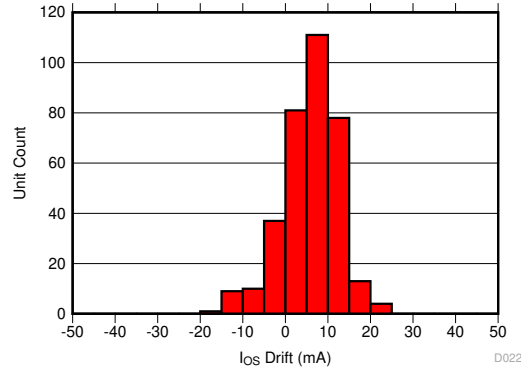

Figure 9-8. Input-Referred Offset Drift After AEC-Q100 High Temperature Operating Life Stress Test
The same compensation techniques used in the TMCS1101-Q1 to reduce temperature drift also greatly reduce lifetime drift due to aging, stress, and environmental conditions. Typical magnetic sensors suffer from up to 2% to 3% of sensitivity drift due to aging at high operating temperatures. The TMCS1101-Q1 has greatly improved lifetime drift, as defined in the Electrical Characteristics for total sensitivity error measured after the worst case stress test during a three lot AEC-Q100 qualification. All other stress tests prescribed by an AEC-Q100 qualification caused lower than the specified sensitivity error, and were within the bounds specified within the Electrical Characteristics table. Figure 9-6 shows the total sensitivity error after the worst-case stress test, a Highly Accelerated Stress Test (HAST) at 130°C and 85% relative humidity (RH), while Figure 9-7 and Figure 9-8 show the sensitivity and offset error drift after a 1000 hour, 125°C high temperature operating life stress test as specified by AEC-Q100. This test mimics typical device lifetime operation, and shows the likely device performance variation due to aging is vastly improved compared to typical magnetic sensors.